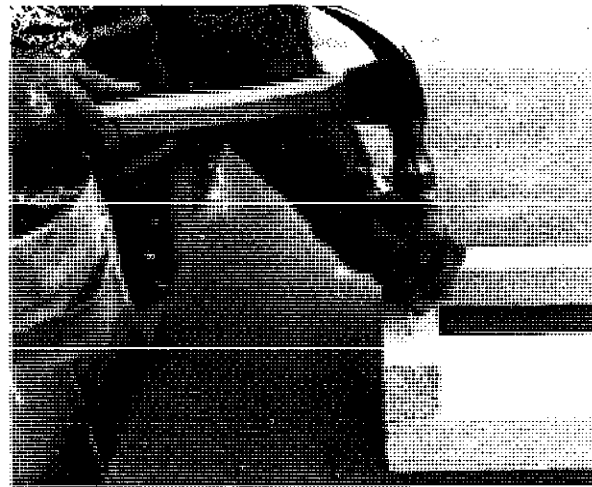

Fig. 11-28 Using the nail set.
3. Refer to figure 11-28. Hold the set between the thumb and forefinger and apply the point so that it is centered on the head of the nail. Rest the little finger on the work to steady the hand as setting is being done.